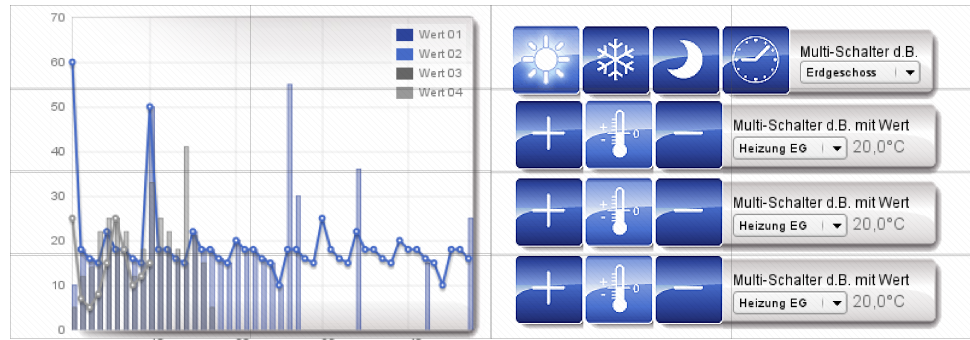

Figure 14: „compact“ with grid (for illustrative purposes)
The compact (ON) statement can be used to enable the placement of elements of different heights next to each other. The web server itself calculates the heights overflow in the next line. The user may not place any **none** element elements here, if the width is not to be increased. Figure 14 shows again schematically the arrangement of the elements, as is already output in the eibparser